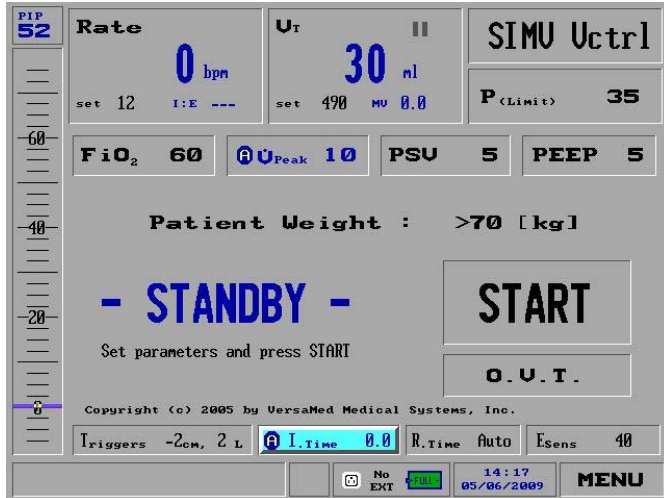

Figure 62: Inspiratory Time Selected on the Main Screen
1. Select the Inspiratory Time setting from the middle of the lower portion of the **Main** screen (Figure 62):